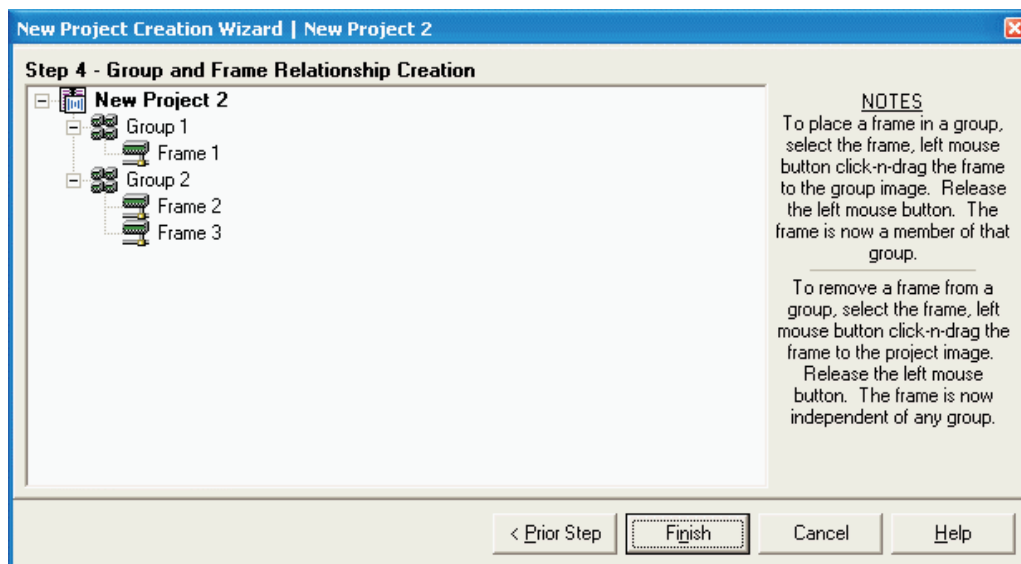

Figure 20 - New Projrct Creation Wizard
**Step 4 - Groups and Frames Relationship** (See Figure 20) (This is a relationship view of the configured project, groups and frames. Follow the instructions on how to change the relationships.)